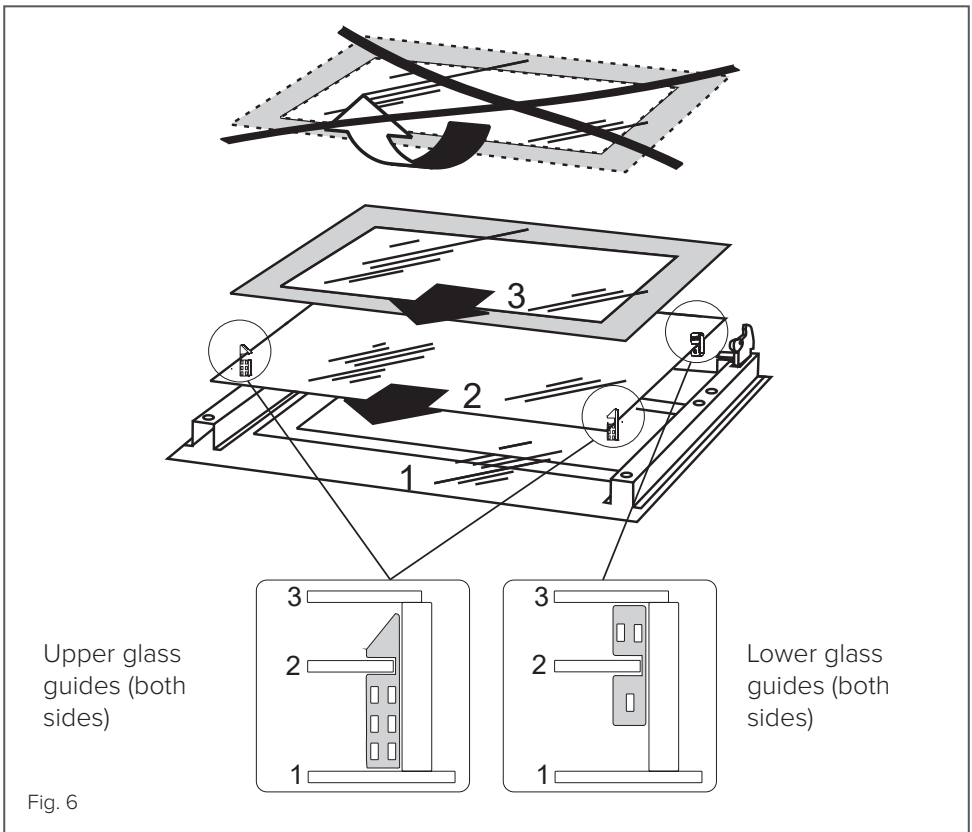

Fig. 6
- There are a number of rubber guides attached to the inner pane and these must be returned to their original positions when reassembling the door. Fig. 6 shows these guides and their position on and around the inner glass